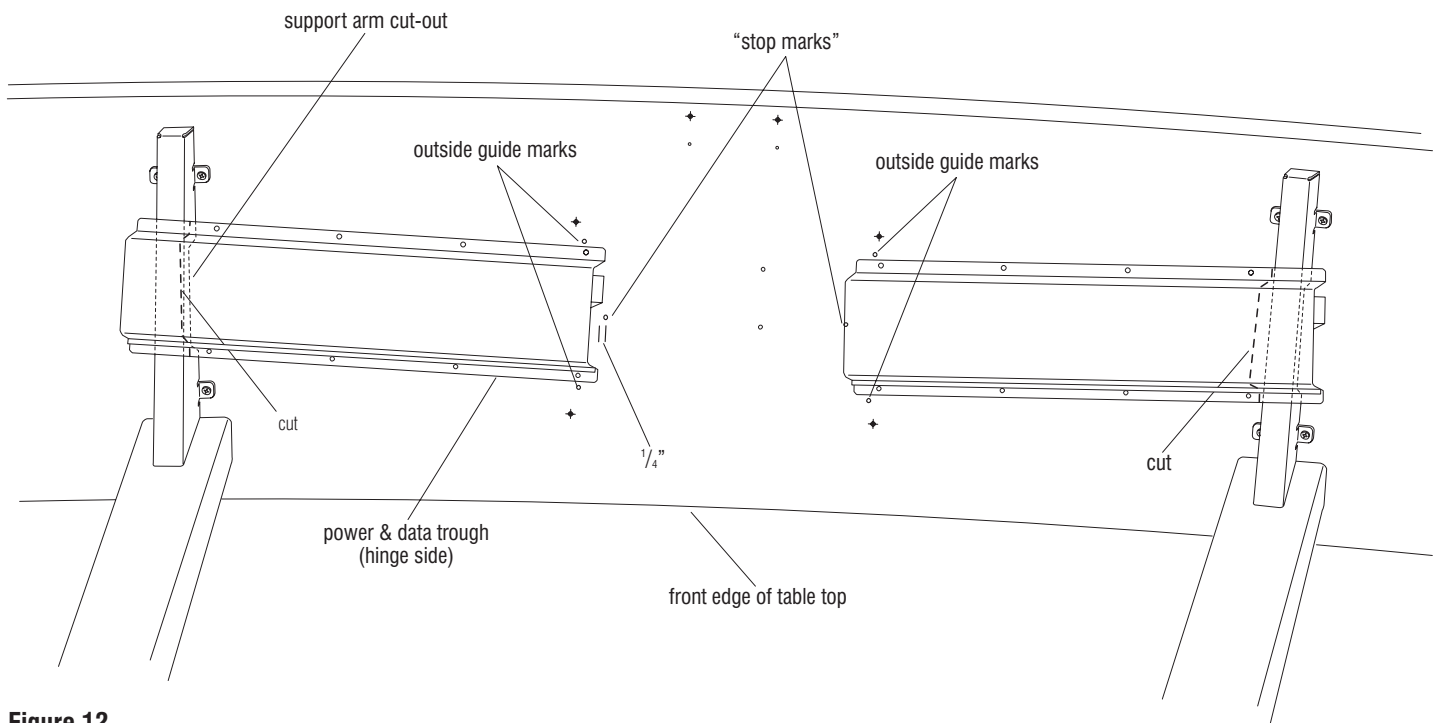

Figure 12
at the guide marks, align the other end of the trough to the cut-out location of the support arm as illustrated. The trough must rest directly in line with the cut-out as it is over the support arm. Recheck to make sure that both sides of the trough are properly aligned and mark a line parallel to, but  $\frac{1}{8}$ " from the support arm. Cut the power & data trough to fit the above specifications (Figure 12).
25. Follow steps 23 and 24 again for aligning and cutting a trough to fit from guide marks to support arm on the opposite side (Figure 12).